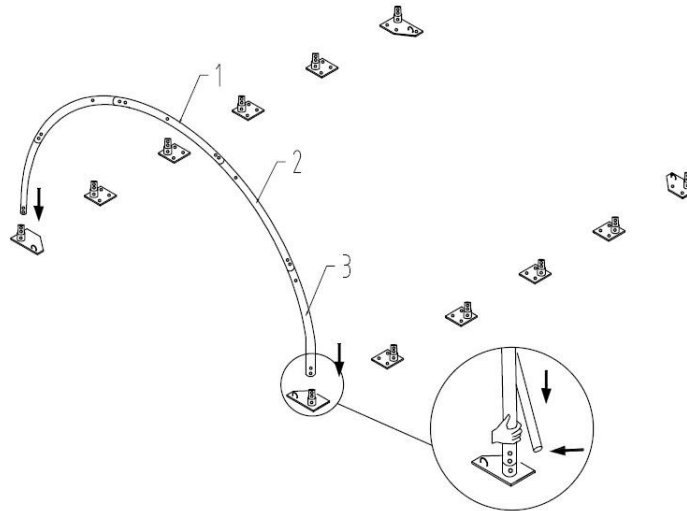

Figure 6
1. Erect the first arch using ropes. Secure the ropes to a heavy object, and install the arch in the standing position by inserting one end of the assembled arch into one base plate and forcing the other end of the arch into the opposite base plate, as shown in *Figure 6*.